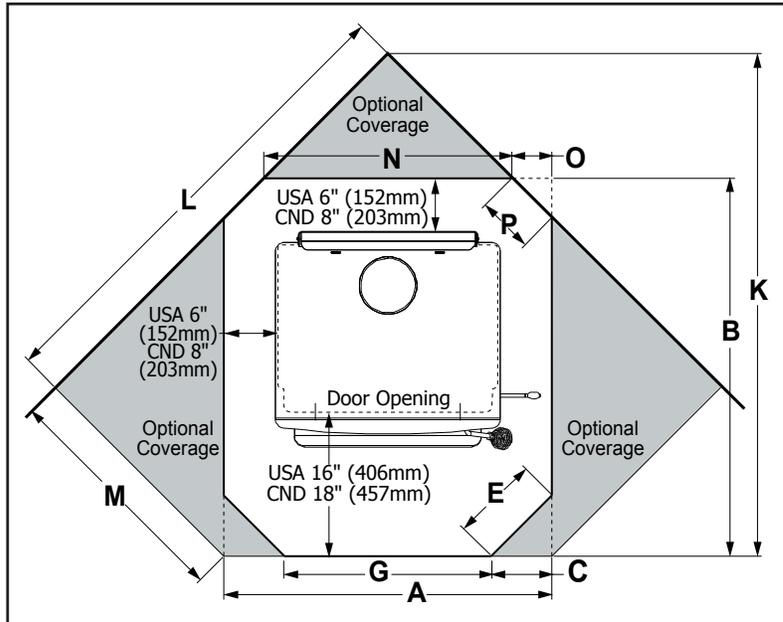

Figure 23: General Corner Installation (refer to Tables 11 & 13).
**Table 13: Examples of Corner Installation Using Clearances From Tables 9 & 10 (refer to Figures 23 & 24).**